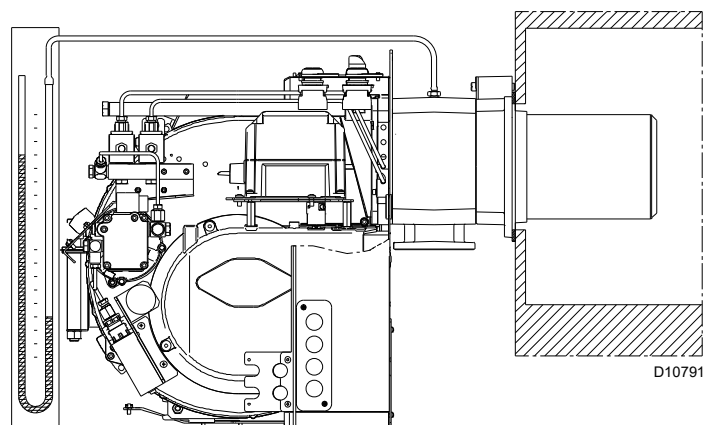

Fig. 38
- Purge the air from the gas line. Fit a U-type manometer (Fig. 38) to the gas pressure test point on the sleeve. The manometer readings are used to calculate the high fire burner firing rate using the tables on Tab. J.